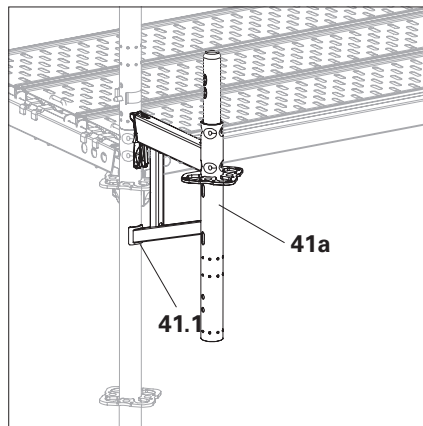

Fig. A6.02
1. Hang the console bracket (**41a**) into the rosette of the standard or top standard at right angles to the scaffold. The formwork half (**41.1**) must rest against the vertical tube. (Fig. A6.02)